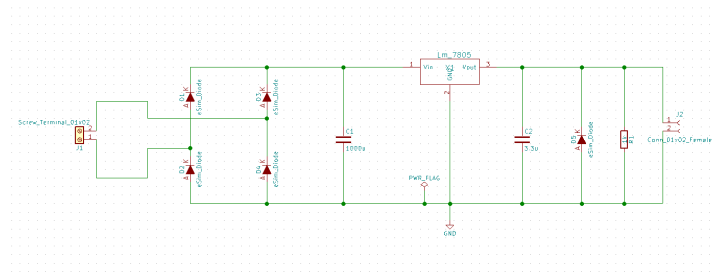

Figure 16.2: Schematic after adding connectors and removing the probes and sources.
- Modify the circuit schematic as shown in Fig. 16.2. The two pin female connector (`Conn_01x02_Female`) is placed for the taking the 5V output supply meanwhile a 2